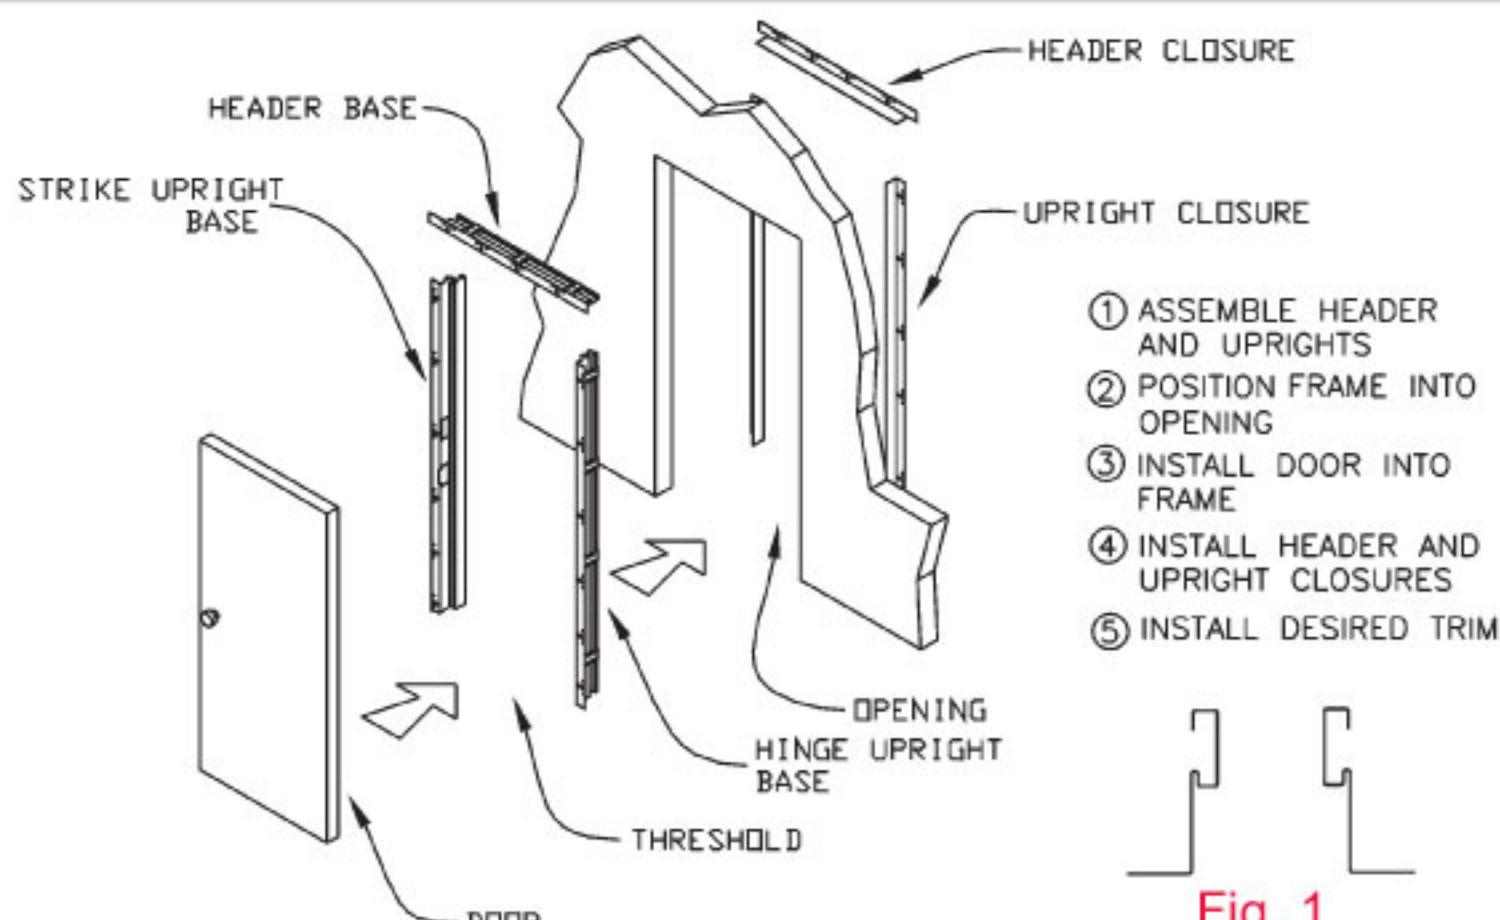

Fig. 1
- 2 Assemble base side of frame** (which consists of hinge jamb, strike jamb, and header) by placing the face or nailing flange face down on a flat surface (Fig. 1). Insert tabs which are located on the ends of the jambs into the slots in the header. Bend tabs outward and down to secure tight fit between the jambs and header (Fig. 2). Stand frame upright and place into rough opening. **Note:** If using threshold, install prior to placement into rough opening.